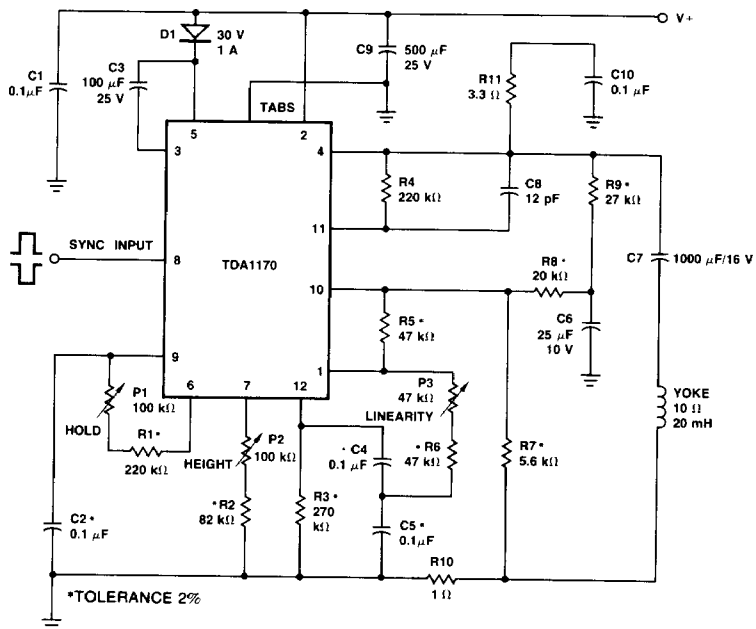

Fig. 2a
**AC CHARACTERISTICS** (Test Circuits – Figures 2a, 2b)
As can be seen, the supply current is independent of  $V+$  and depends only on the yoke characteristics. The minimum value of  $V+$  necessary for the required output current results in the maximum efficiency. The quiescent output voltage (pin 4) is fixed by the voltage feedback net network R7, R8, and R9 (Fig. 2a) according to: